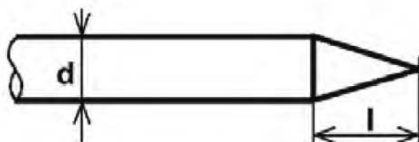

Fig. 15
- with negative balancing the sharpening of the infusible electrode will be in a cone shape (length sharpening $l = 1 \times d$ - Fig.15) to obtain a concentrate electric arc, required when welding thin thickness or to improve the penetration and productivity to the medium-high current; on the other side with positive balancing and medium to low current values the electrode tip is rounded (hemispherical) and the electric arc less concentrated making it suitable for butt welds (butt joint) and on the outer corners.